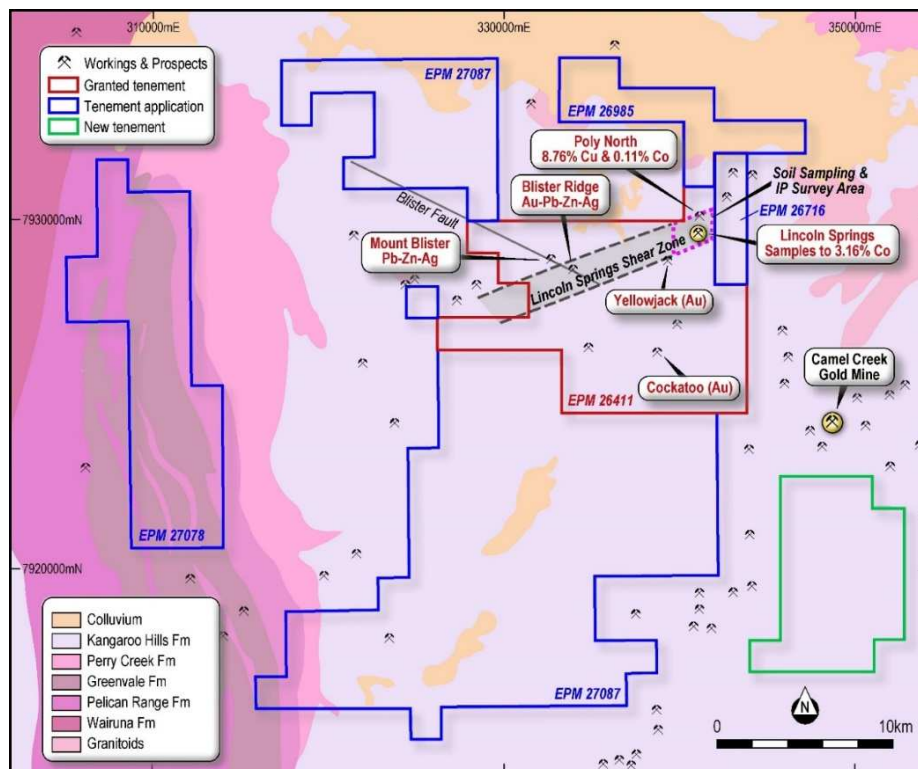

Figure 1: Lincoln Springs Project Location
**Greenpower Energy Limited** (ASX: GPP, Greenpower, the Company) is pleased to provide shareholders with an exploration update on the Company's Lincoln Springs Copper-Cobalt Project located 220km north east of Townsville, Queensland (Figure 1).